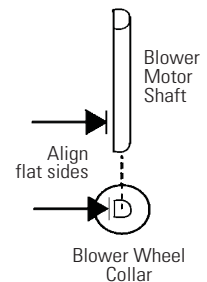

Figure 5-2. Align
10. Install the blower wheel onto the motor shaft, aligning the d-shaped flat sides of each. See Figure 5-2. Secure the blower wheel with the wingnut. Make sure the wheel turns freely.